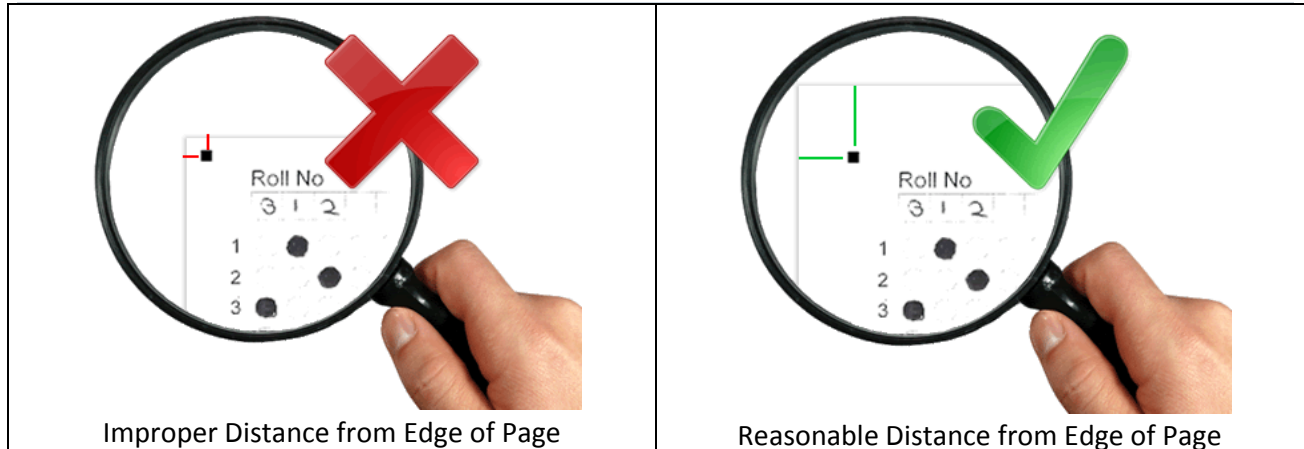

Figure 3 : Distance from Page Edge
- Keep the scanning area wide enough so that the corner 4 index points are properly scanned and there is sufficient white space outside them (see fig. 3).